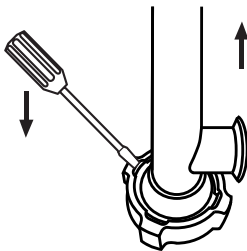

Figure 7
7. Remove the connection nut (see Figure 7).